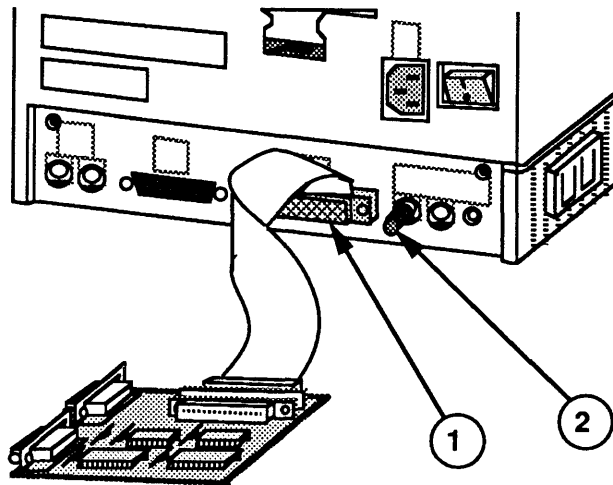

FIGURE 6
4. Connect the SCSI loopback card to the SCSI port (Figure 6, #1) on the UUT.
5. Connect the serial loopback plug to the printer port (Figure 6, #2) on the UUT.